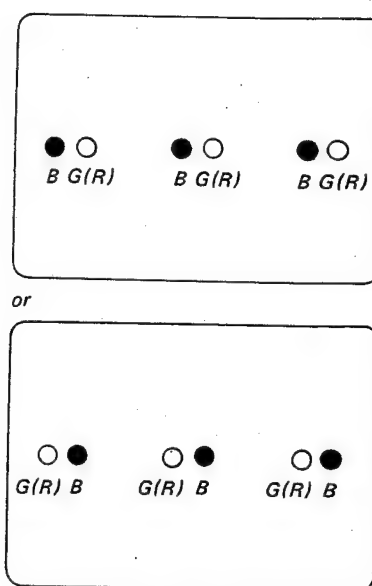
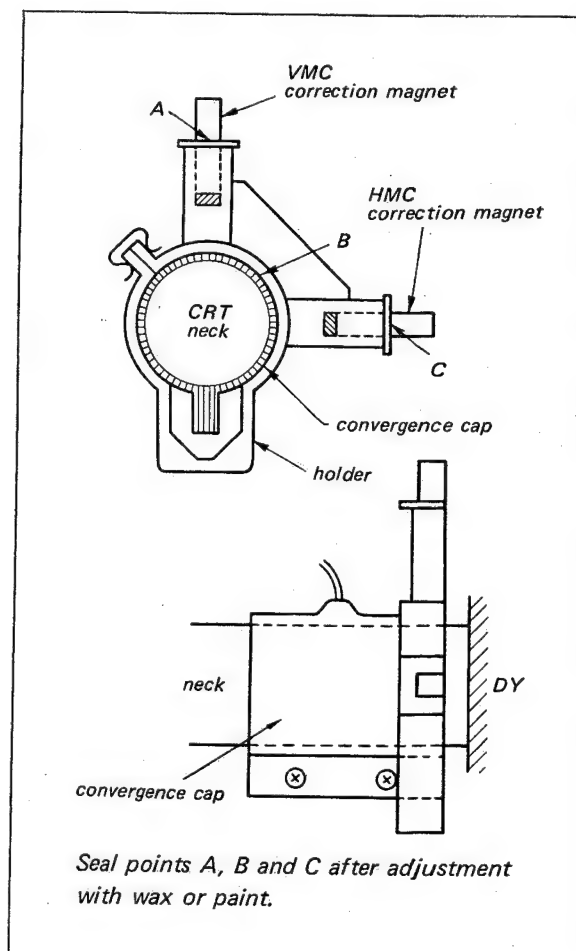

Fig. 3-6.
Fig. 3-7.
2. If the blue dots do not converge with the green and red dots at the centre of the screen, adjust the horizontal magnetic convergence control (HMC) as necessary. See Fig. 3-6 and Fig. 3-7.